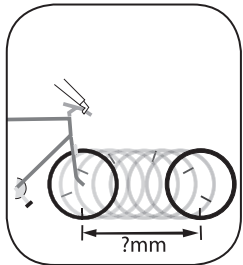

Figure 22- Measuring rollout for wheel size
1. With the valve stem of the front wheel directly over the floor (Figure 22), sit on the bike.